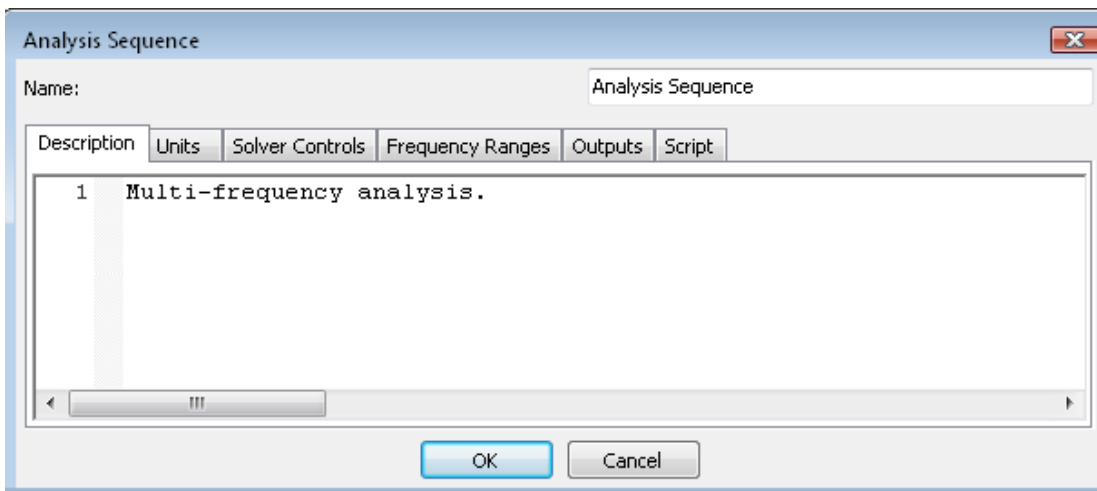

Figure 7.2: Analysis sequence edit dialog box.
- **Edit an Analysis Sequence.** Select: **Analysis Sequences** → <Analysis Sequence Name>. Right-click on it and select **Edit** to open the analysis sequence edit dialog box. Make changes and click OK. (Figure 7.2)
Figure 7.2 shows an Analysis Sequence edit dialog box. The dialog box consists of five *tabbed* windows storing different parameters. The first *tabbed* window **Description** could be used to add the description of the analysis sequence. All the required **Inputs** for *Coustyx* analysis are found in the *tabbed* windows: **Solver Controls** and **Frequency Ranges**. The **Outputs** window has options to save the results to a binary file, compute acoustic variables at Sensor locations (field points), and save iGlass file for post-processing visualization. **Script** *tabbed* window lists the summary of commands required to run an analysis. The parameters in the script are set by the